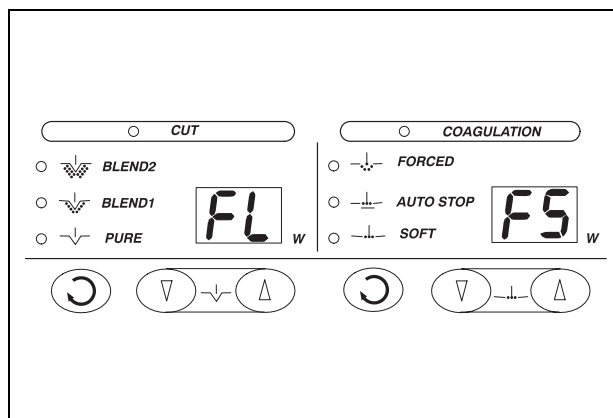

Figure 5.5
- If the CUT and/or COAG. output level is set to “0 W” and the foot switch is pressed, a warning tone will sound and the output setting indicators will display “FL” and “FS” (see Figure 5.5).